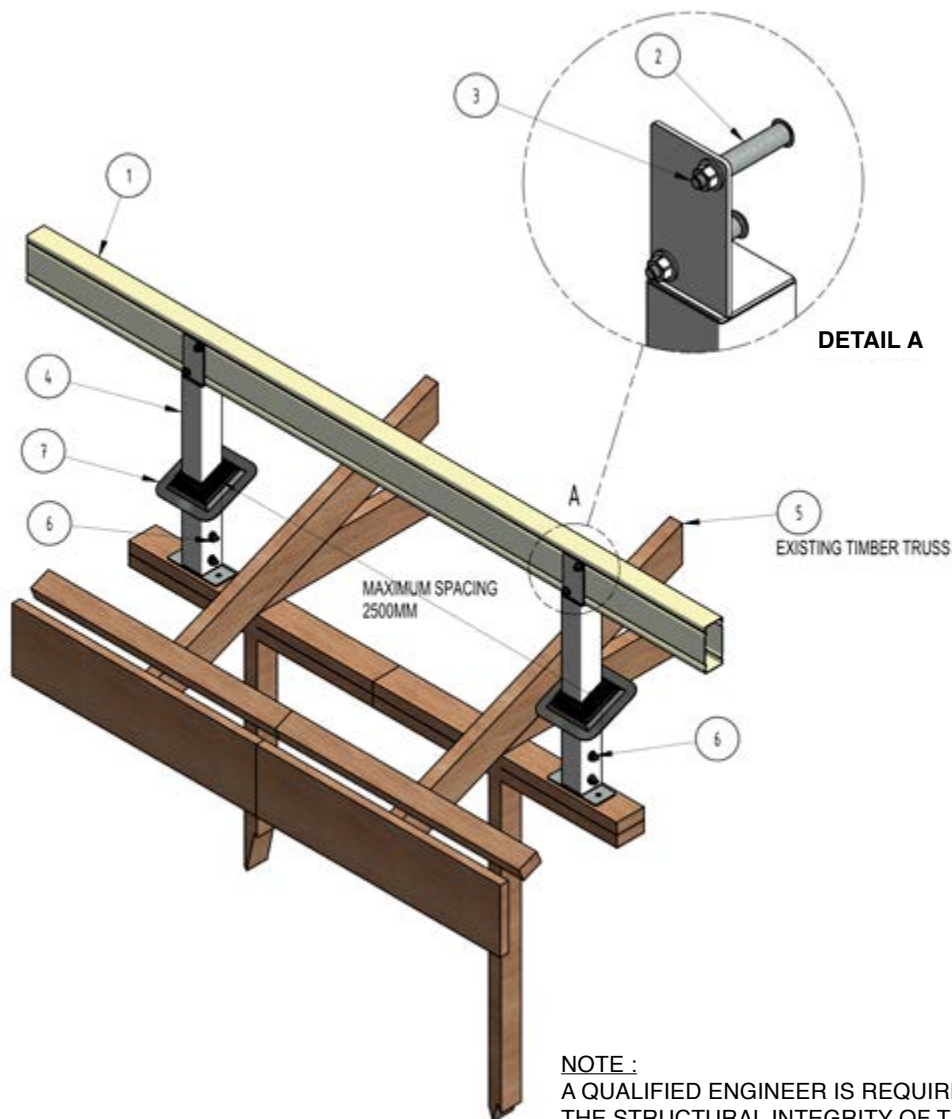

Figure A36
**Flyover with Delta Extension Bracket (see Figure A36)**